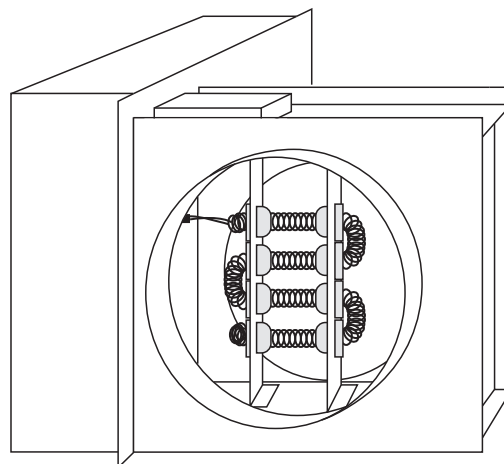

Fig. 3
- FT Flanged Tubular (Fig. 3)
- RFC Round collar open coil (Fig. 3)